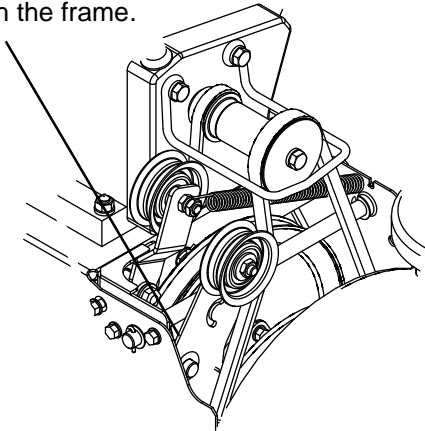

Figure 25
3. With the attachment clutch disengaged, check that the attachment idler arm lightly touches the frame. See Figure 25.